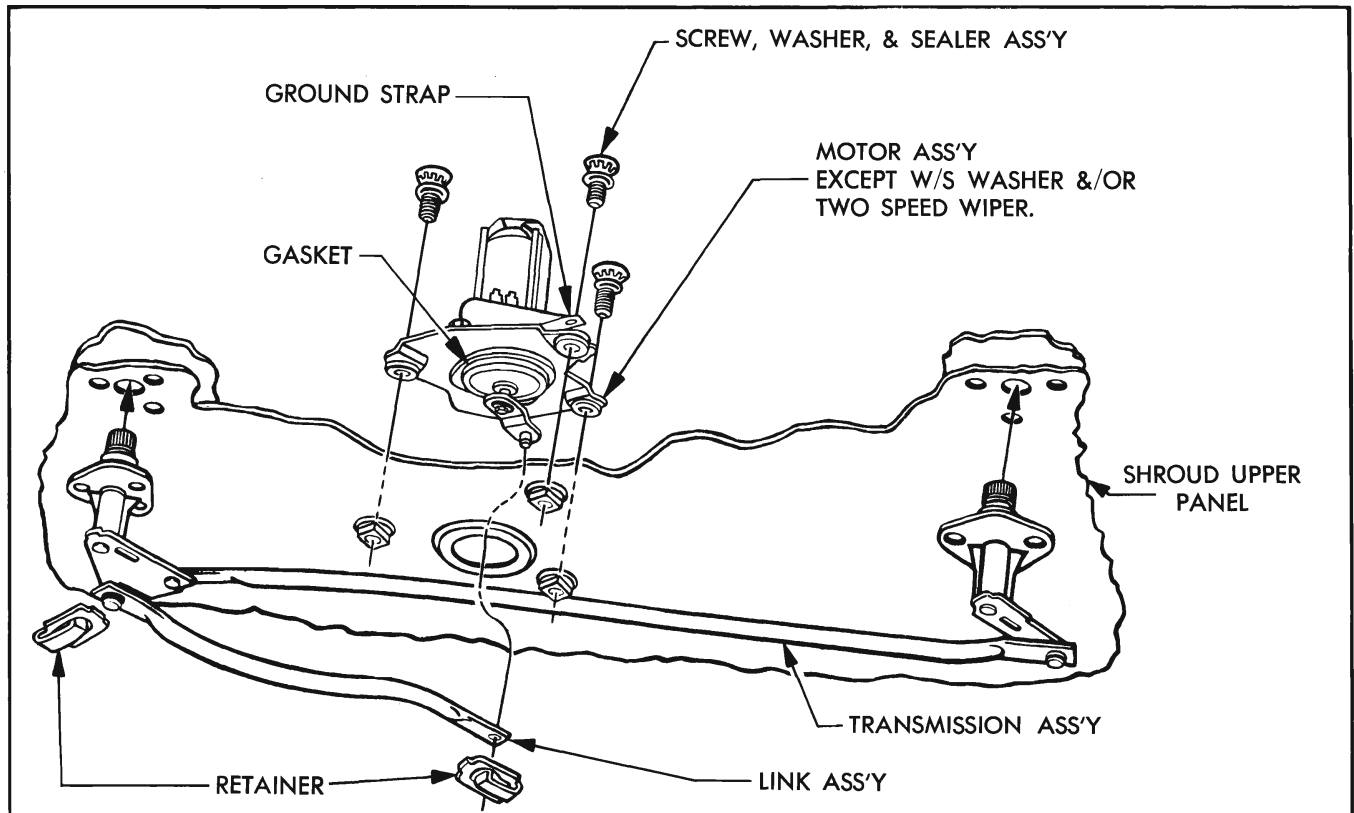

Fig. 11-82 Windshield Wiper Transmission
WIPER TRANSMISSION—REPLACE (FIG. 11-82)
1. Make sure gasket is on motor (Fig. 11-82).